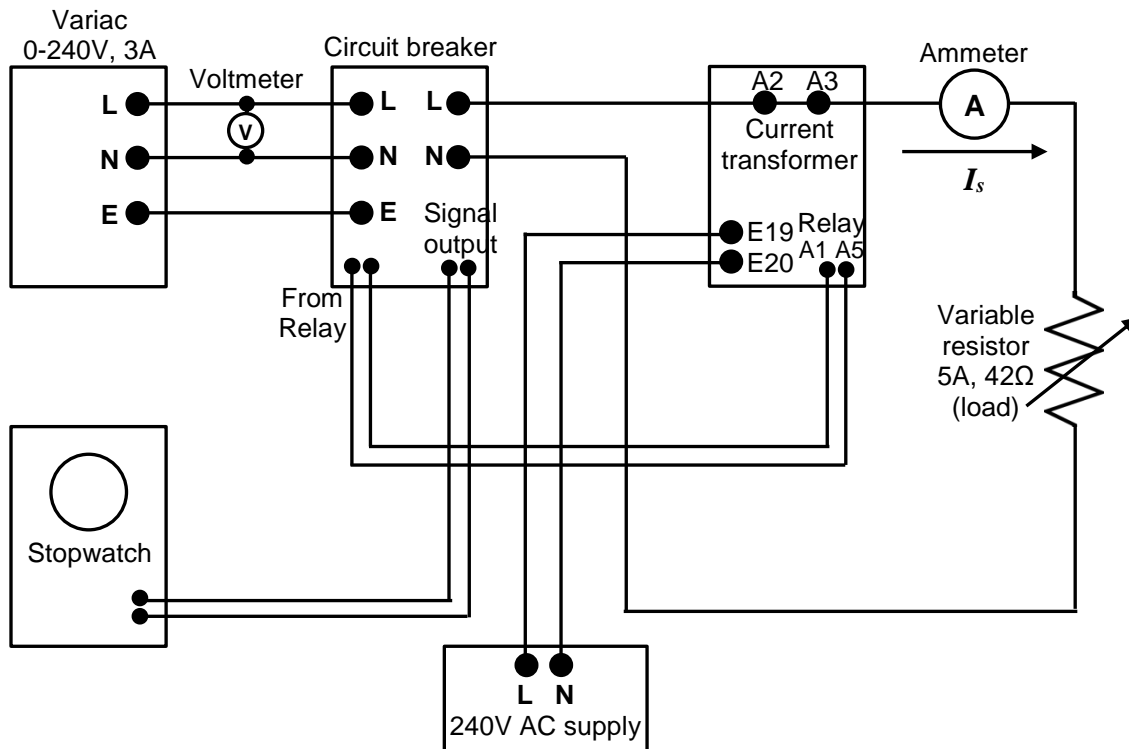

Figure 2: Circuit diagram of experimental setup
1. Make sure that the circuit connection is as shown in Figure 2. Do not change the circuit connection without permission from the lab demonstrator or technician.
2. For the relay, set the Plug Setting (SP) = 0.8 and Time Multiplier Setting (TMS) = 0.08.